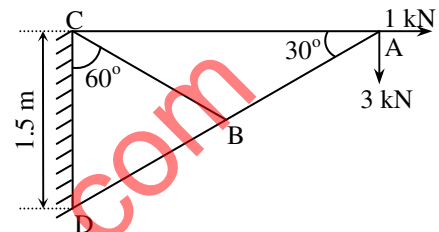

figure 3 [Q-2(c)]
- (c) Find the forces in all the members of the truss shown in **figure 3**. Indicate the magnitude and nature of forces on the diagram of the truss. **07**